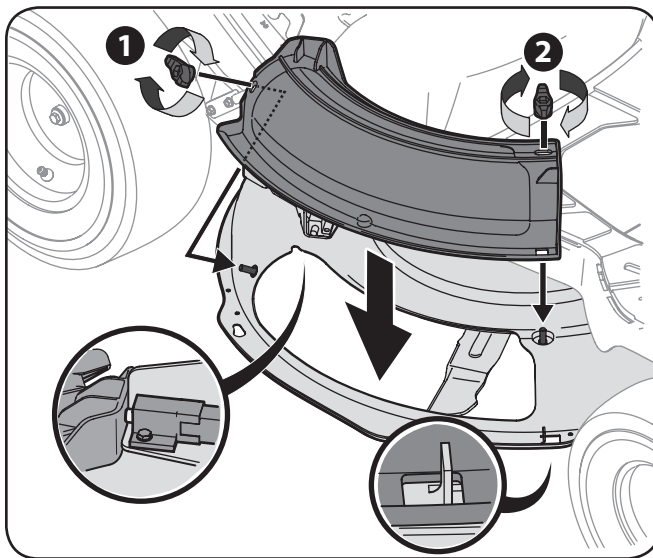

Figure 3-9
2. Install the mulch plug into the deck discharge opening on the deck. The studs on the deck surface will fit through the holes on the upper portion of the mulch plug. The small tab on the deck lip area will fit through the square cutout on the lower portion of the mulch plug. See Figure 3-9.